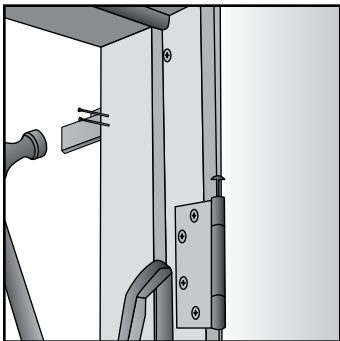

Fig. 27
- At approximately the same level as the anchor screws and hinges, drive two 3" finish nails through face of jamb into stud to help secure jamb (**Fig. 27**).